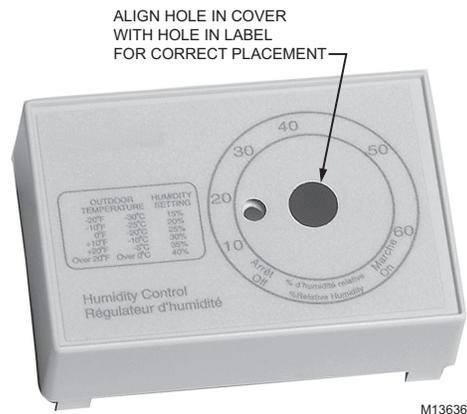

Fig. 47. Adhere Humidistat Cover Label.
12. Remove the backing and adhere the Humidistat Label to the recessed area of the front of the Humidistat Cover. See Fig. 47.